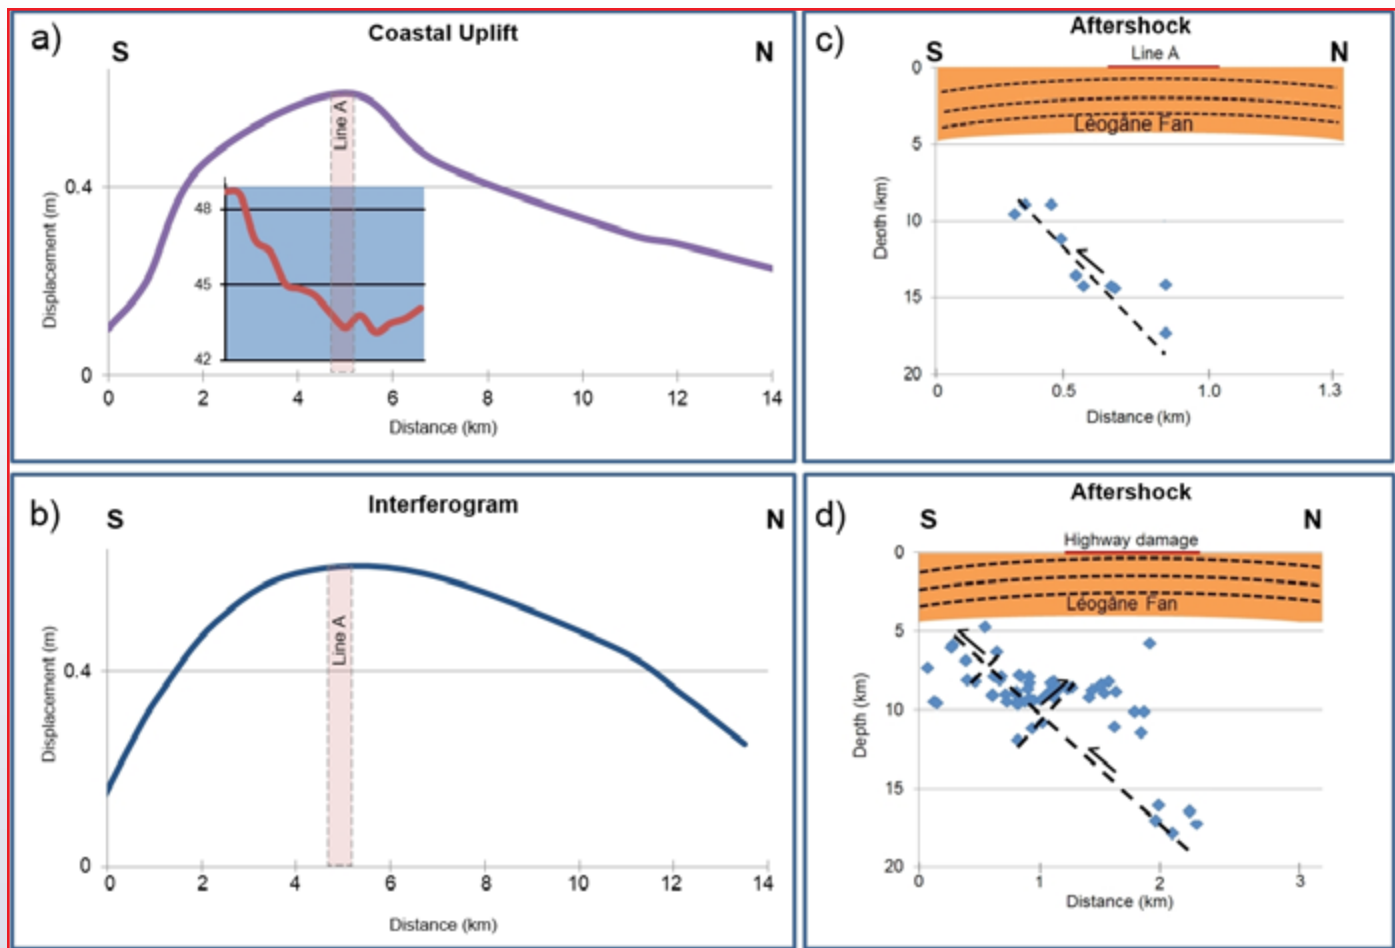

Figure 5
Figure 5 integrates the results of remote sensing techniques with uplift observations, gravity data, and the aftershock studies on the Léogâne fan delta area. These results are consistent with (1) a similar asymmetrical shape of the coastal uplift (**Figure 5a**) and (2) the similar asymmetrical shape of the uplift inferred from satellite radar data (**Figure 5b**). **Figure 5a** also integrates the gravity survey results with the coastal uplift studies. Our 4000 m gravity line suggests a decrease in the gravitational field between the southern end of the fan and line A and the increase of the gravitational field from line A to the north. There is an interesting correlation between the gravity anomaly and uplift observations. The initial reduction in the gravity may be related to the thickening of the south-dipping seismically low velocity and low density subsurface layers. The increase of the gravitational field starting from line A may be related to possible subsurface thrusting and folding. Thrusting along the Léogâne fault may have caused the uplift of relatively higher density materials, which could cause the positive gravity anomaly. We expect that the limbs of the fold would